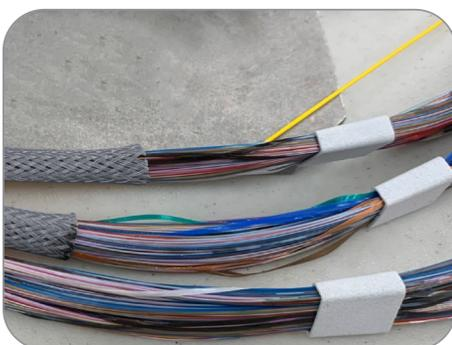

Figure 24
2. Insert fiber through mesh tube (Figure 24). **NOTE:** Refer to steps 2-6 in Mesh Application for Ribbon or Bare Fiber section on pages 4 and 5.